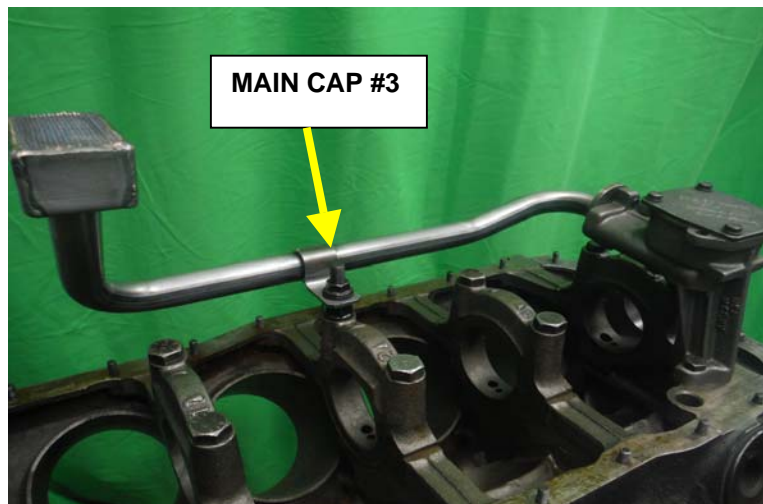

FIG 1
- 2) Remove the #3 passenger side main cap bolt and replace it with the supplied 7/16-14 & 20 stud. Thread the stud into the engine block until it bottoms out and torque to 10 ft-lbs. (Ref: fig 1)
- 4) Place (1) 7/16" washer over the new installed stud and nut. Place the pickup bracket onto the stud with the remaining 7/16" washer and loosely fasten the 3/8-24 serrated face nut